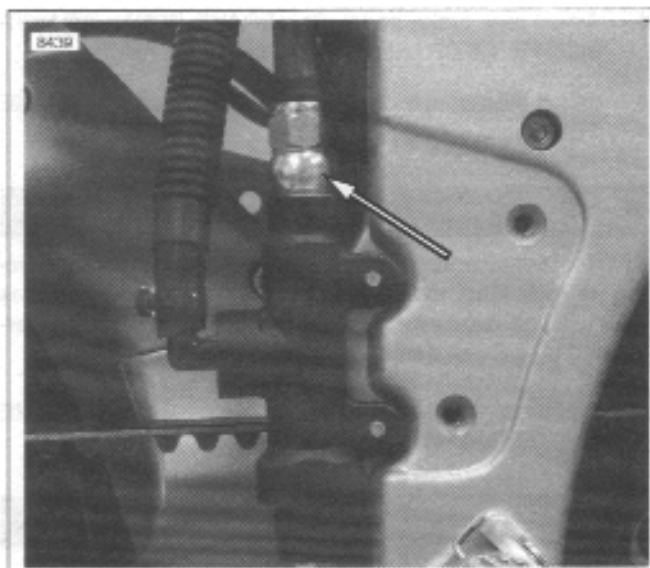

Figure 2-50. Rear Brake Line Switch/Banjo Bolt
7. Remove banjo bolt (4) from rear caliper. Discard copper washers.
8. See Figure 2-50. Remove brake line switch/banjo bolt from rear master cylinder. Discard copper washer.
1. See Figure 2-50. Install brake line switch/banjo bolt with **new** copper washers to the master cylinder. Tighten to 16-20 ft-lbs (22-27 Nm).